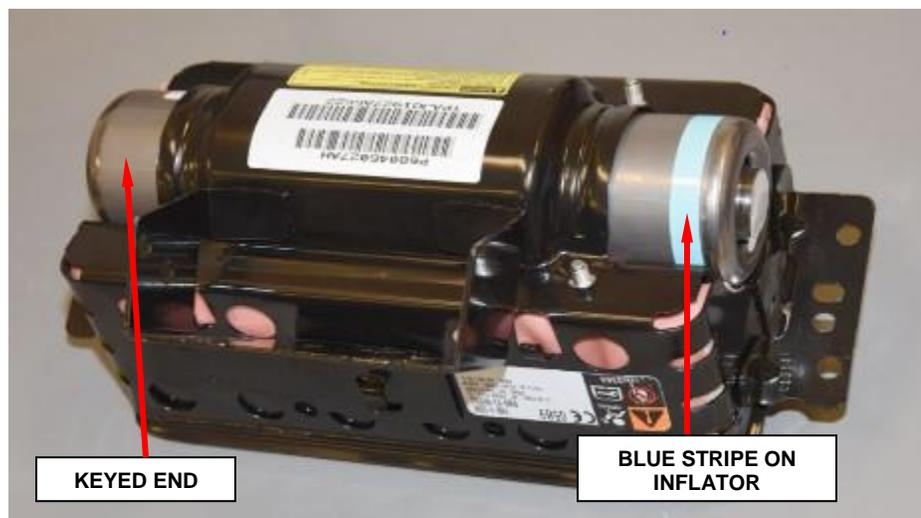

Figure 34 – Insert Inflator (Shown with Cushion Installed)
- h. Slide **new** inflator into housing. The keyed end is inserted first, therefore the blue stripe on the inflator will be located at the open end, as shown (Figure 34).